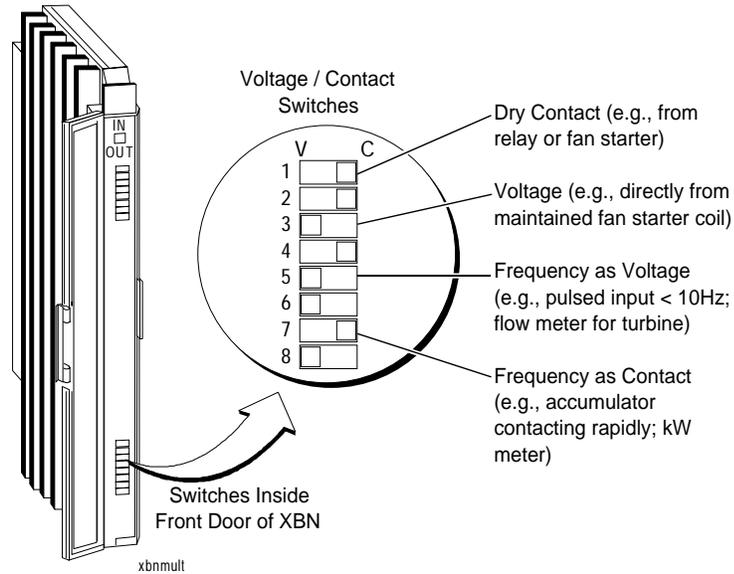

Figure 26: Example of V/C Settings for Switches 1-8
The XBN has 4 contact/voltage switch blocks containing 8 switches each, for a total of 32. The switches are numbered (1-32) with each switch defining a corresponding field input as either a contact input or voltage input (frequency inputs are characterized by their source as either contact or voltage). Set each switch according to the type of signal the addressed point should receive. The switch set to the left (V) reads voltage; set to the right (C) reads contacts, as shown in Figure 26.